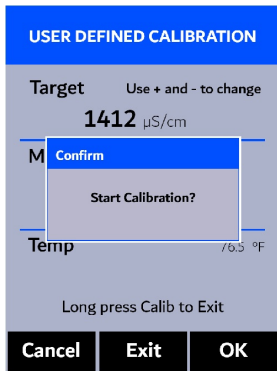

Figure 27.
10. The display updates as shown in Figure 27 and the user can choose one of three options: